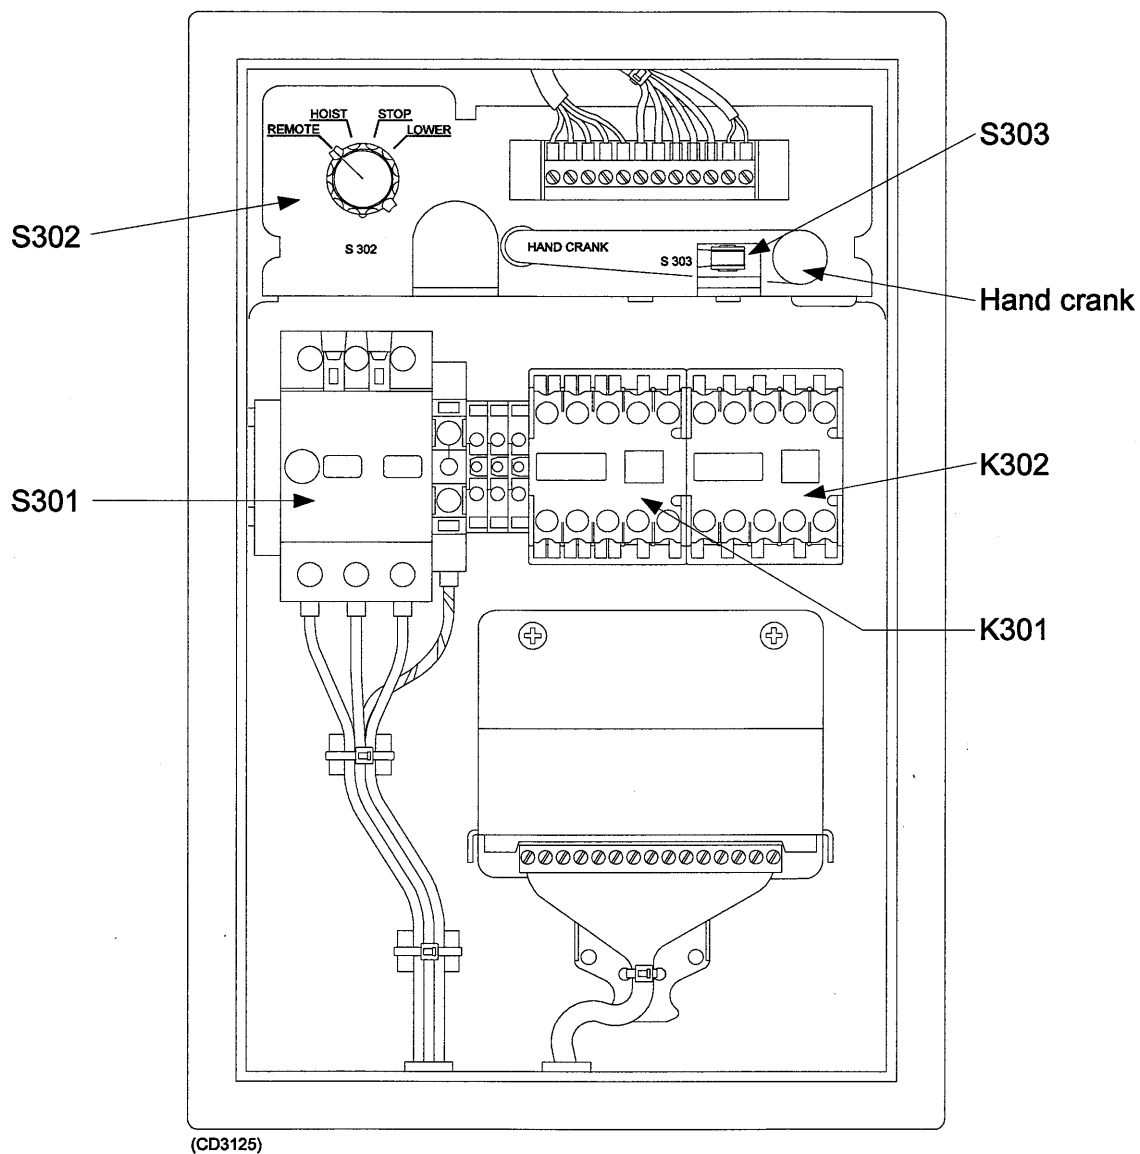

Figure 2 The motor control unit
- ☐ Release the motor overload switch S301 in the motor control unit by pressing the red button marked "0" (see figure 2).
During the following procedure, there must be one person on the bridge, and one in the sonar room to control if the hoisting/lowering system works properly. If problems occur in the sonar room, press the button marked "0" on the motor overload switch S301 (see figure 2) to stop the hoisting/lowering.